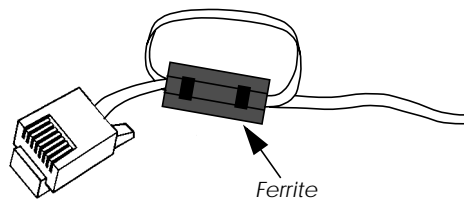

Figure 2: RJ-45 Western Plug with Ferrite
If your network is setup using twisted pair (or telephone) wiring then individual stations are attached to the network through UTP (unshielded twisted pair) connectors. A UTP connector is a telephone type (RJ-45) connector also known as a western plug. A twisted pair cable connects the UTP port of each station on the network to a central 10BaseT concentrator. You can attach the BRICK-XS to your ethernet using the 10BaseT port with the included twisted pair cable and ferrite as shown in figure 2.
2. Make a small loop in the twisted pair cable as close as possible to the BRICK and attach a ferrite to it as shown in figure 2 above.